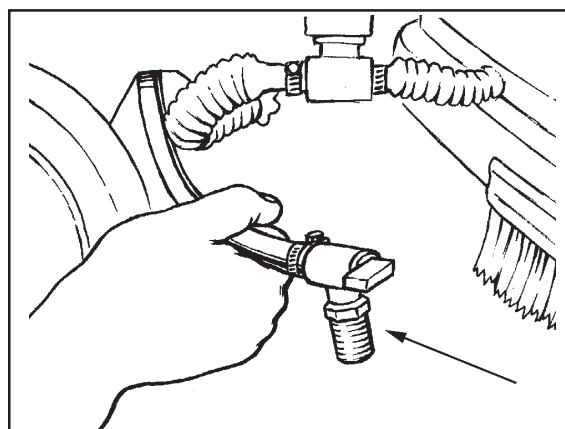

Figure 15
4. To drain the battery compartment: See Figure 15.